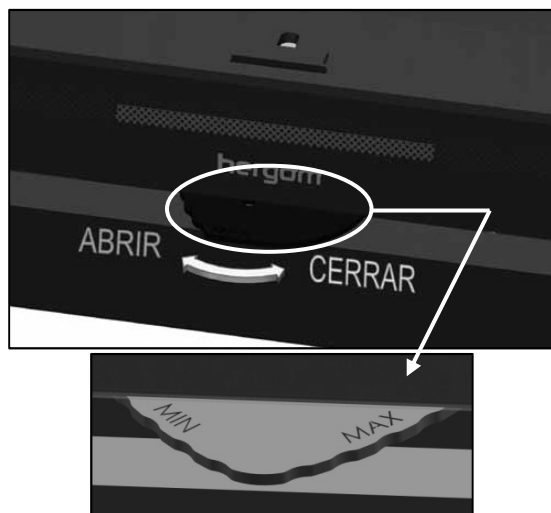

FIG. 5
- Move the regulation valve from right to left to provide a greater inflow of air to favour combustion (FIG. 5).